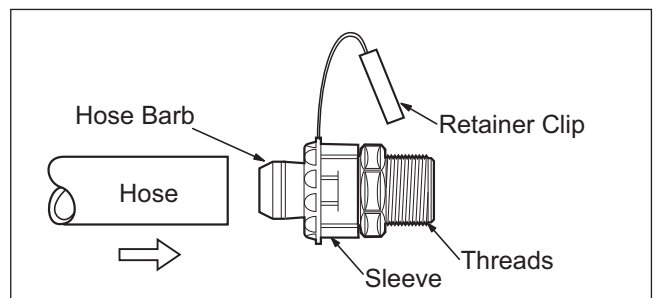

Figure 4. Install the Hose onto the Quick Disconnect.
1. Mount the pump using two (2) concrete expansion anchors to ensure stability.
5. Push the hose onto the quick connect until it is flush against the hose barb base. See Figure 4